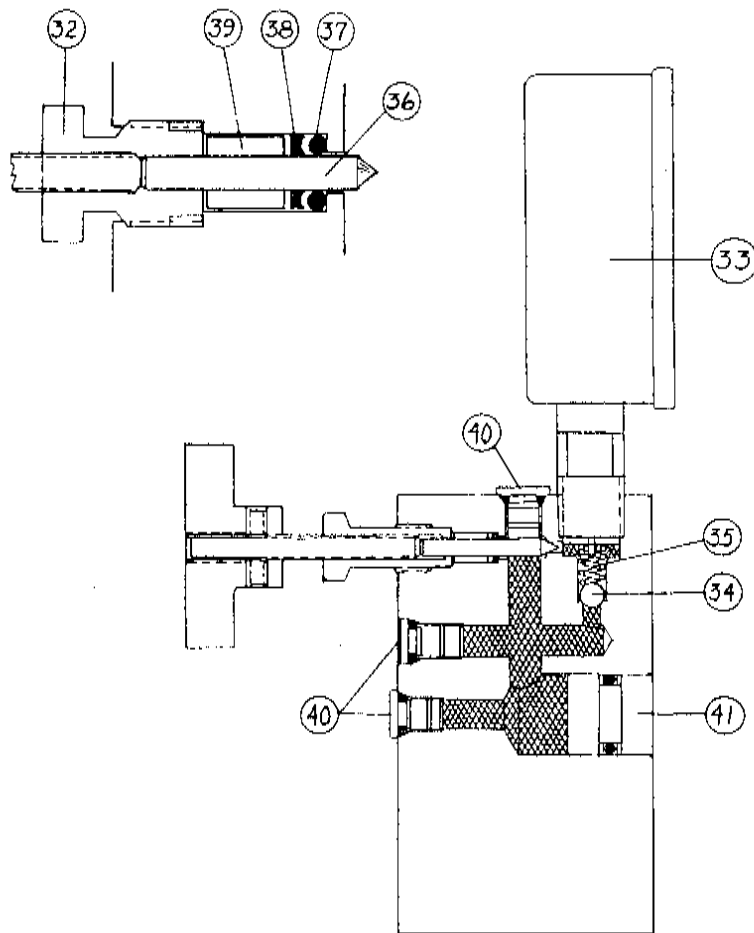

Figure 8-B
During normal operation of the homogenizer, a small amount of the dampening fluid *may* leak out of the dampener reservoir. If you find that you cannot build pressure on the gauge, referring to figure 8-B, remove the gauge block and inspect the position of the dampener piston (41). If the piston is retreated $11/16$ ", then fluid has escaped and refilling is necessary. At this time also try to note where the fluid has escaped from. It may have escaped from the needle valve O-ring or, perhaps, one of the pipe plugs has leaked.